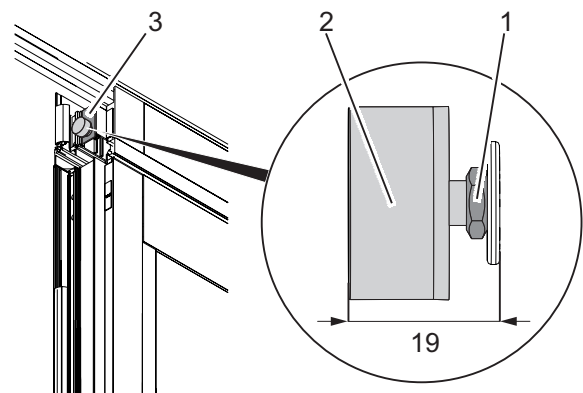

Fig. 24: Lateral alignment of the panels
The lateral distance of the panels is adjusted via rubber buffer (Fig. 24/2). The lateral distance between two panels (without brushes) at delivery is 5 ± 2 mm. In order to achieve this distance, there is a 19 mm distance between the upper edge of the rubber buffer (Fig. 24/2) and the plastic edge of the web (Fig. 24/3). If necessary, readjust the lateral distance.
2. Adjust the rubber buffer via the nut (Fig. 24/1) until there is a distance of 19 mm between the upper edge and the plastic web (Fig. 24/3).